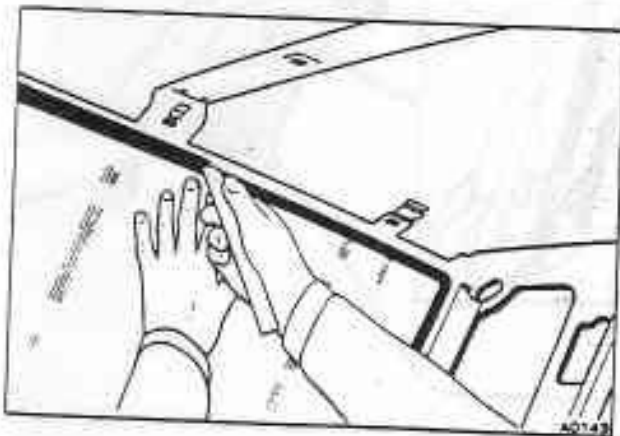

Fig. S11-5 Removing the rear window
16. From inside the car, ease the lip of the rear window seal over the body aperture flange (see fig. S11-5). A small steel rule or a similar tool will assist during this operation. Start at the top corners and work towards the centre, simultaneously applying pressure to the glass.